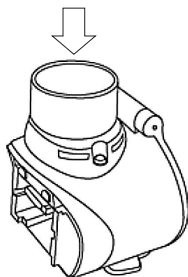

Fig. 13
b.3 Put 2 ml. of water into the mesh outlet (refer to the picture Fig.13). The water will be nebulized from mesh outlet to the medicine tank. This may take several minutes to complete. You will hear a sound while it is running. When the reverse clean is complete, the nebulizer will reverse back to regular mode and nebulize for a few seconds.